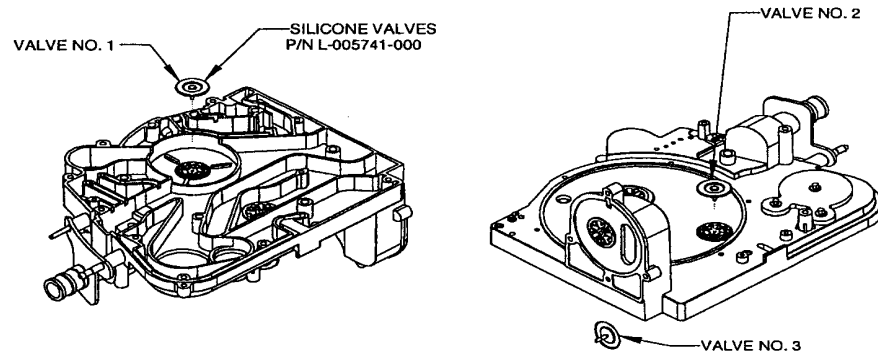

FIGURE 4-16.
1. Install silicone valve #1 from the underside of the manifold. See Figure 4-16.
4. Install silicone valve #2 from the topside of the manifold. See Figure 4-16.
6. Install silicone valve #3 from the inside of the air inlet chamber. See Figure 4-16. A flat metal ruler may be used as a guide to ease installation.